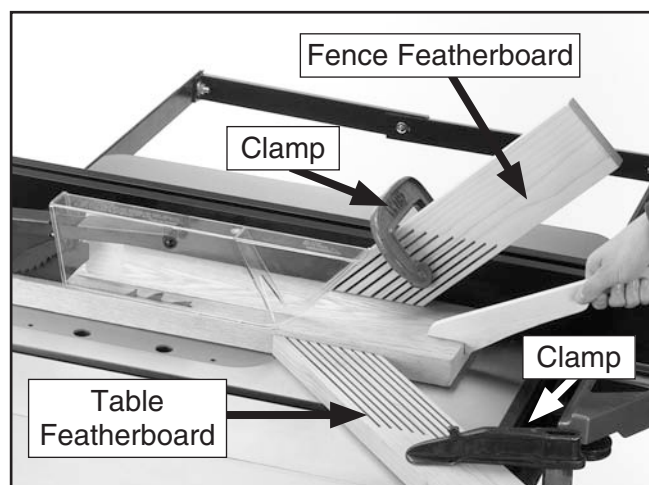

Figure 71. Example of featherboards secured with clamps.
3. Place a featherboard on the table away from the blade so all fingers point forward and contact the workpiece (see **Figure 71**).
6. Mount a second featherboard to the fence with another clamp (see **Figure 71**), then repeat **Step 5** to ensure it is secure.